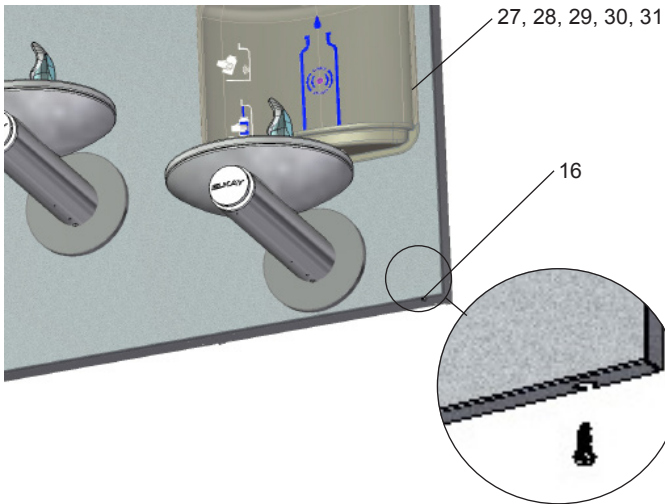

Figure 4 - Upper Panel Installation
16. **Install** the bottom panel, tighten screws (Fig 4).